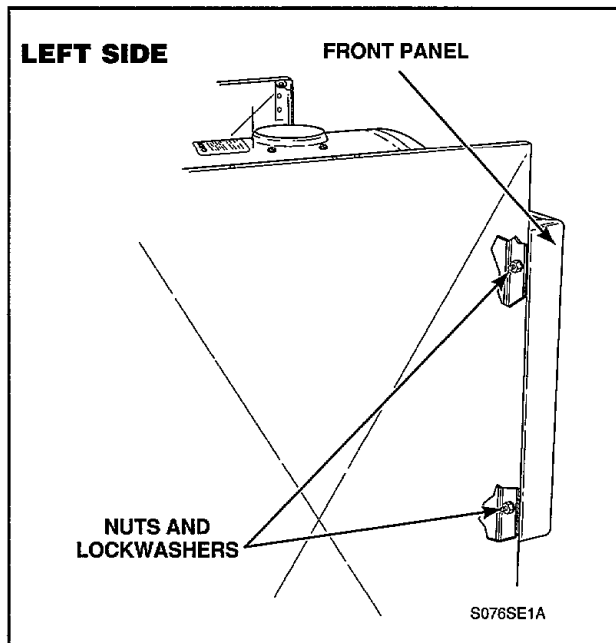

Figure 17
- l. Remove two nuts and lockwashers, *Figure 17*, holding front panel assembly to left leg (leave bolts in place).